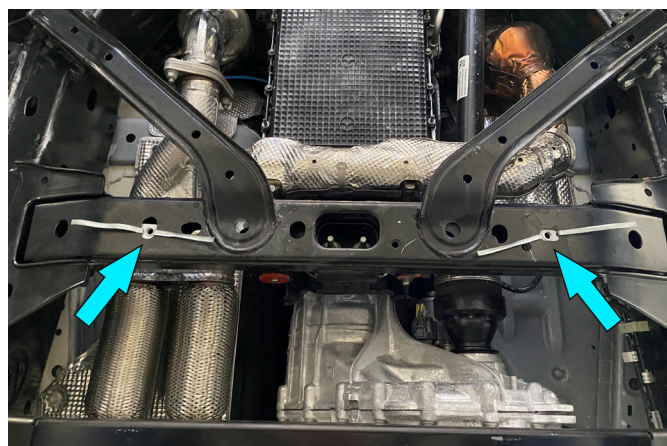

Fig. 2
1. Attach bolts M10x25 (item A) and washers 10 (item B), as shown in fig.2.
2. Install the insert nut M10 (item D), as shown in fig.2.